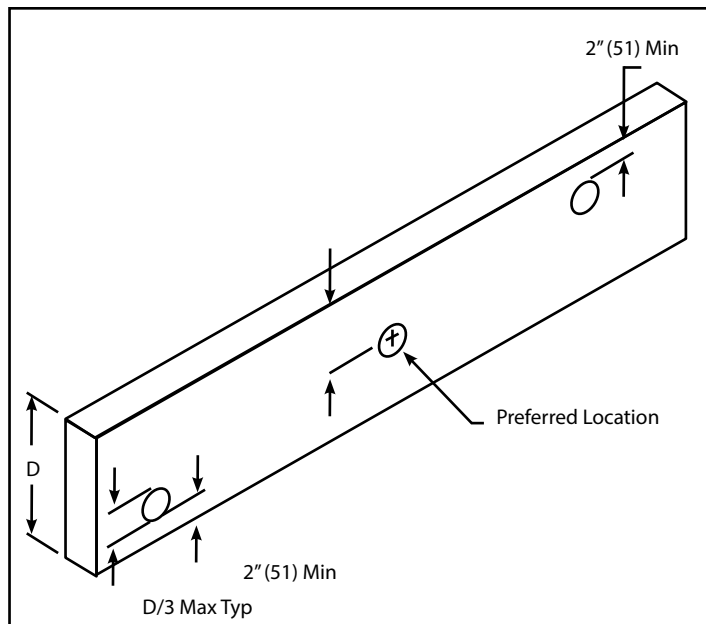

FIG. 4-7 Holes in Wood Joists
- Where a hole is to be bored in a joist, the hole should be located at the centerline, otherwise no closer than 2" (51mm) from the nearest edge of the joist, and the hole diameter shall not exceed  $\frac{1}{3}$  the depth of the joist (see **FIG. 4-7**).